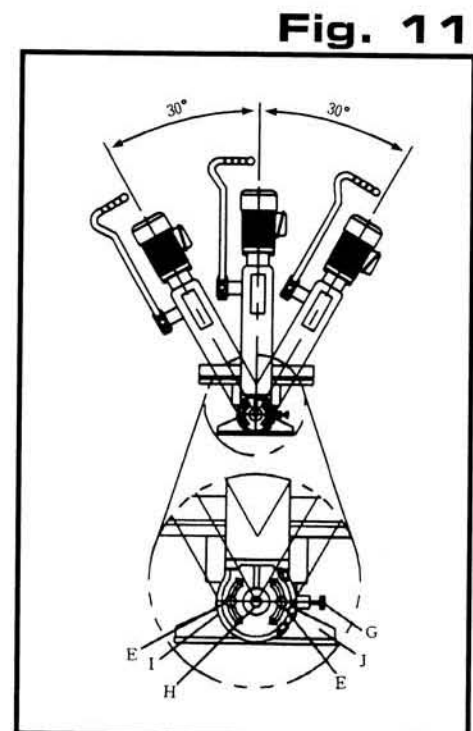

Fig. 11
1. Using open wrench 19 mm to loosen screw (E) counter-clockwise.(Fig. 11)
2. Minor tighten screw (H) for slight separating bracket (I) and base (J), if the head can not be moved.